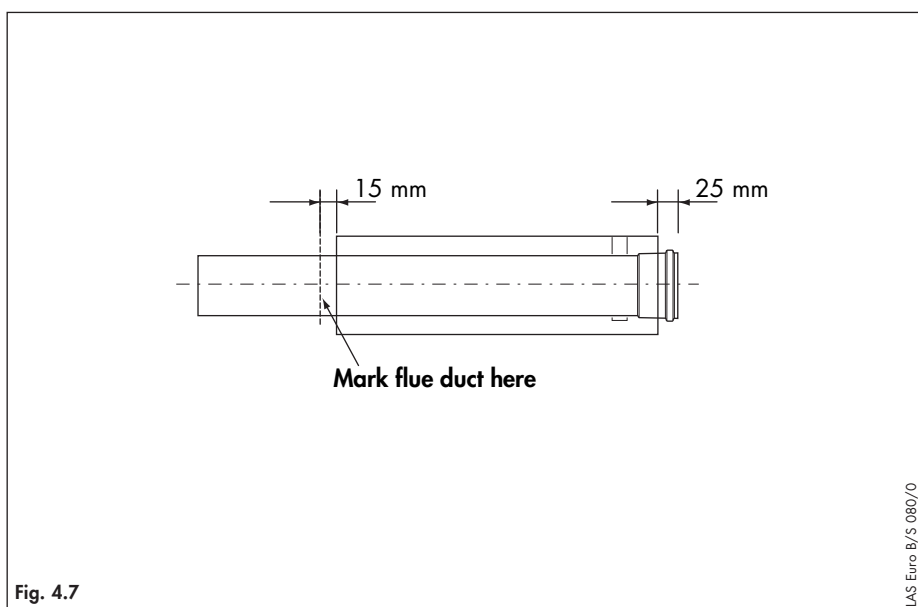

Fig. 4.7
- Cut the flue duct as detailed in fig. 4.7.